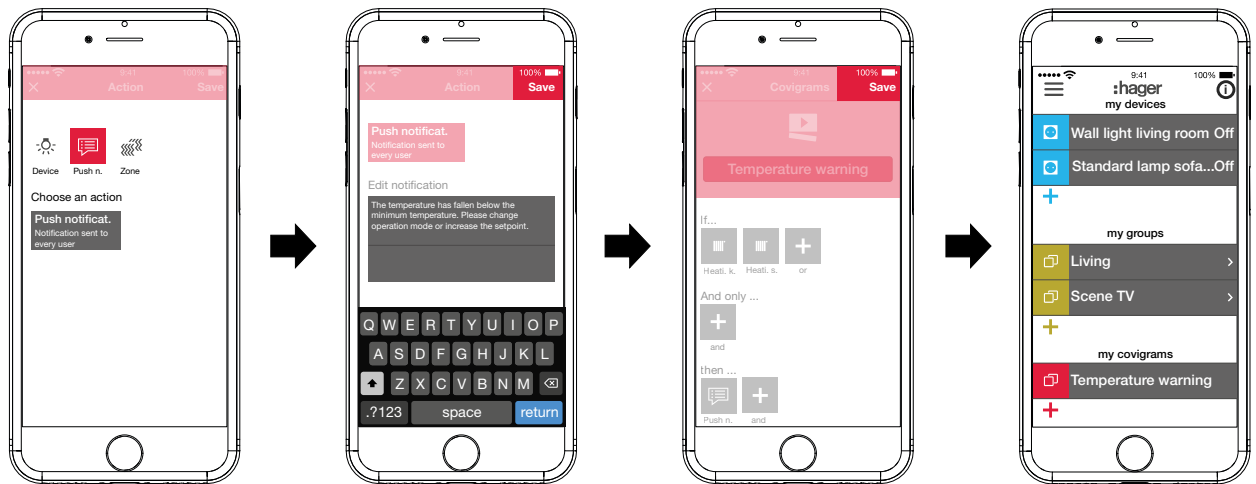

Figure 22: Covigram for example 1: Action
- Select the type of trigger, in the example **Event**  (Figure 22).
- Select the type of action, in the example **Push notification**  (Figure 22).